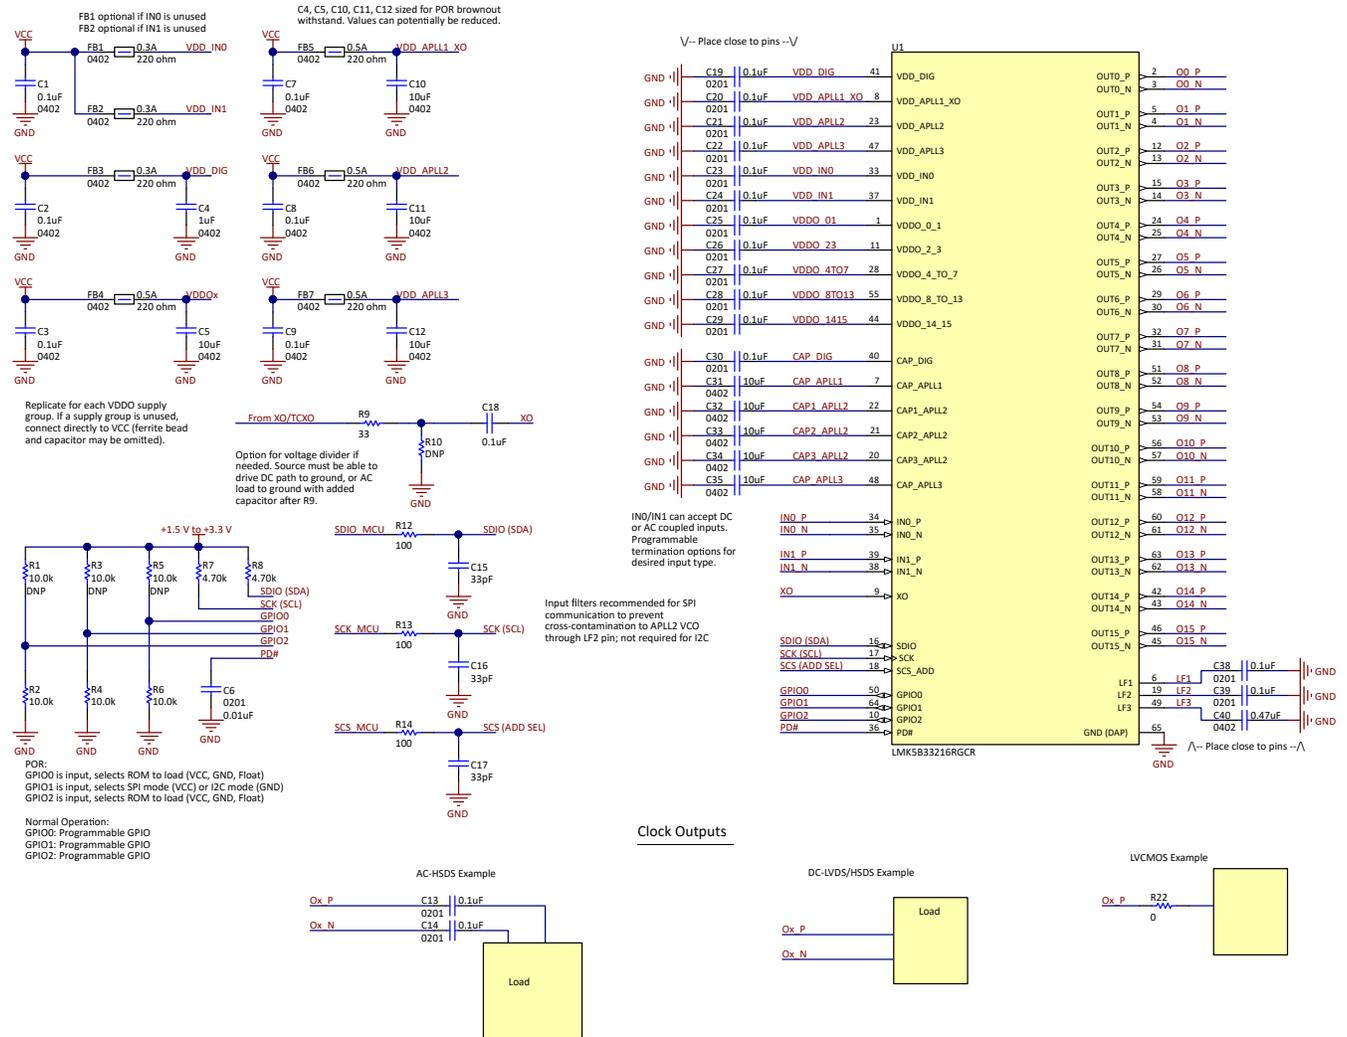

Figure 9-3. Reference Schematic Example
Figure 9-3 shows a reference schematic to help implement the LMK5B33216 and its peripheral circuitry. Power filtering examples are given for the core supply pins and independent output supply pins. Single-ended LVCMOS, LVDS, HSDS, LVPECL, and HCSL clock interfacing examples are shown for the clock input and output pins. An external CMOS oscillator drives an AC-coupled voltage divider network as an example to interface the 3.3-V LVCMOS output to meet the input voltage swing specified for the XO input. The XO pin of the LMK5B33216 can accept 3.3-V LVCMOS input. The required external capacitors are placed close to the LMK5B33216 and are shown with the suggested values. External pullup and pulldown resistor options at the logic I/O pins set the default input states. The I²C or SPI pins and other logic I/O pins can be connected to a host device (not shown) to program and control the LMK5B33216 and monitor its status.
- Reference inputs: Follow the LVCMOS or differential clock input interface examples in Figure 9-3 or Clock Input Interfacing and Termination.
- Clock output Interfacing: Follow the single-ended or differential clock output interface examples in Figure 9-3 or Clock Output Interfacing and Termination.